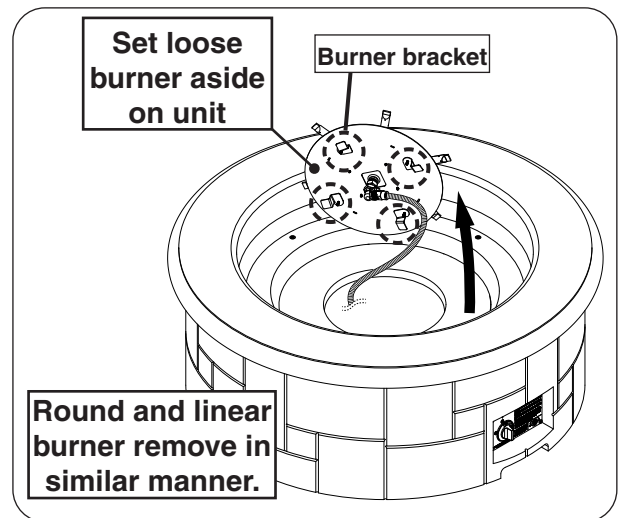

Fig. 28-2 Remove burner assembly
2. Use a  $\frac{5}{16}$ " nut driver to partially unfasten the four or eight screws found on the burner assembly. Then carefully remove the burner and set it off to the side. See Fig. 28-2.